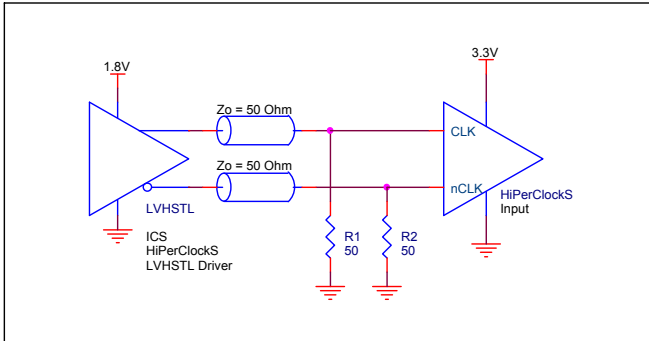

**FIGURE 2. SINGLE ENDED SIGNAL DRIVING DIFFERENTIAL INPUT**
*Figure 2* shows how the differential input can be wired to accept single ended levels. The reference voltage  $V_{REF} \approx V_{CC}/2$  is generated by the bias resistors  $R1$ ,  $R2$  and  $C1$ . This bias circuit should be located as close as possible to the input pin. The ratio